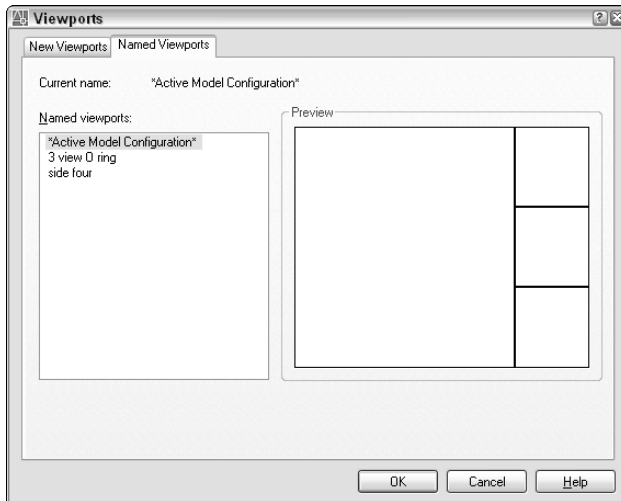

Figure 8-13: The Named Viewports tab lists saved viewport configurations.
1. Choose View ⇨ Viewports ⇨ Named Viewports to open the Viewports dialog box with the Named Viewports tab on top, shown in Figure 8-13.